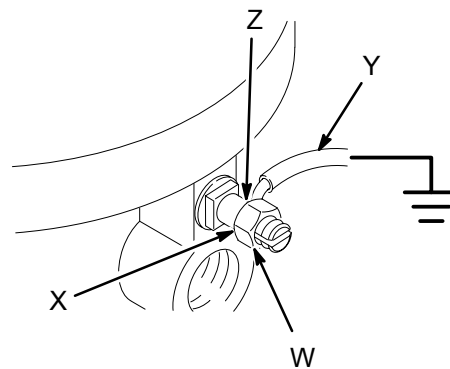

Fig. 1
1. *Pump*: use the ground wire and clamp. See Fig. 1. Loosen the grounding lug locknut (W) and washer (X). Insert one end of a 12 ga (1.5 mm2) minimum ground wire (Y) into the slot in lug (Z) and tighten the locknut securely. Connect the other end of the wire to a true earth ground. For a ground wire and clamp, order Part No. 237–569.
4. *Surge tank*: use a ground wire and clamp. See Fig. 1.